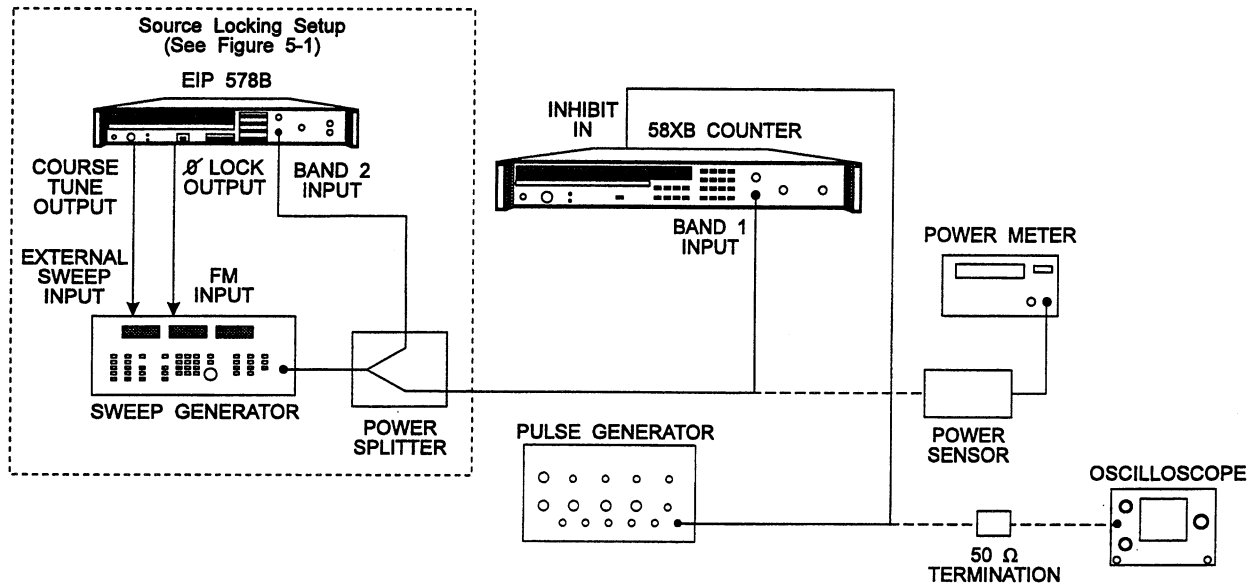

Figure 5-4. Band 1 Range and Sensitivity Test Setup.
1. Connect equipment as shown in Figure 5-4.